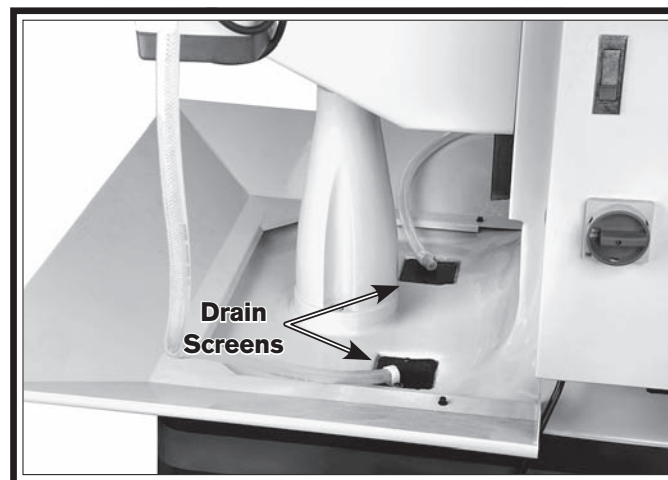

Figure 58. Locations of the coolant drain screens.
2. Clean away debris and grime from the coolant drain screens on the base of the mill (see **Figure 58**), then insert a clean and dry piece of wire through one of the screens to check the level of the coolant.
8. Clean away debris and grime from the coolant drain screens on the base of the mill (see **Figure 58** on the previous page), then pour the coolant through one of the screens to fill the reservoir.